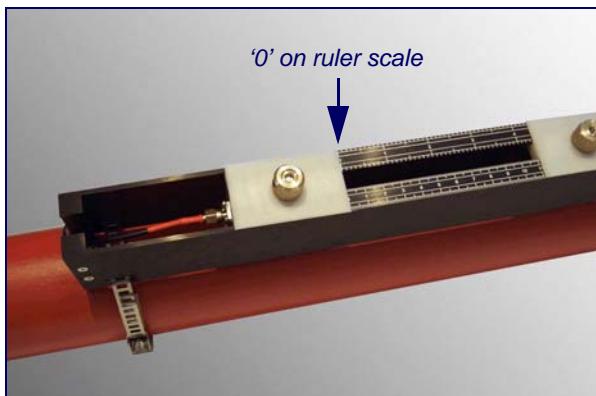

Figure 2.10
7. Connect the upstream signal cable (red) to the other transducer and lower the transducer assembly through the rectangular opening, as shown in Figure 2.10.